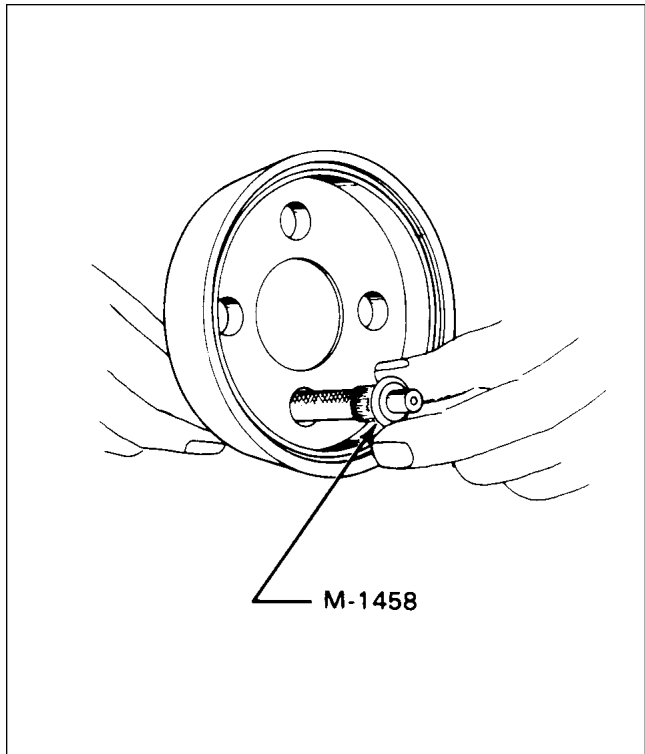

Figure 74-24. Securing Wire in Housing
- l. Install an M- 1458 male tapered drive ferrule over insulation and under shielding as in step i, then drive ferrule into M-1569 housing using M-1744 drive tool, similar to step j. Refer to Figure 74-24.